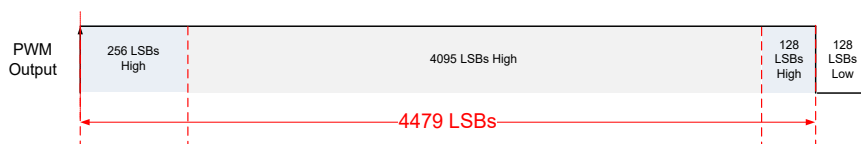
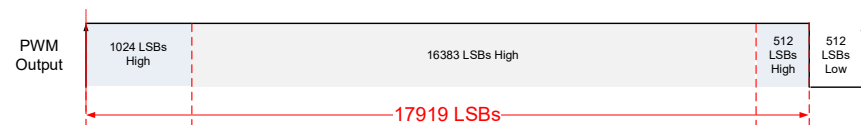

Figure 35. 12-bit PWM Signal in Diagnostics High Mode
Figure 37. 14-bit PWM Signal in Diagnostics High Mode
- Diagnostic high mode, see Figure 35 and Figure 37